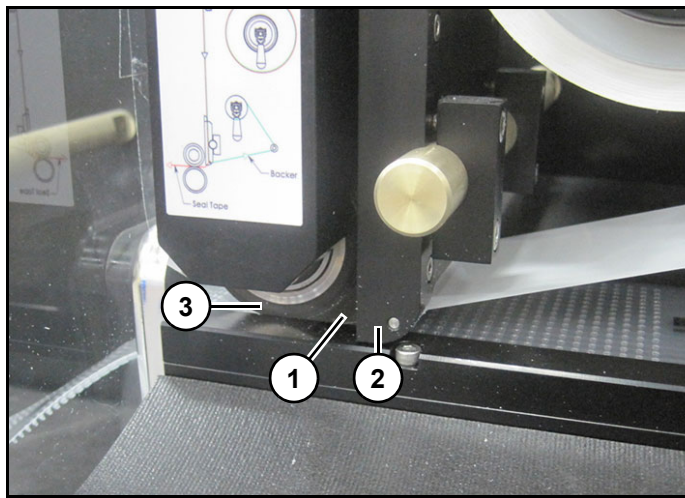

Figure 9
10. Feed clear seal tape (1) under seal tape guide (2) and Nip Roller (3). (Figure 9)